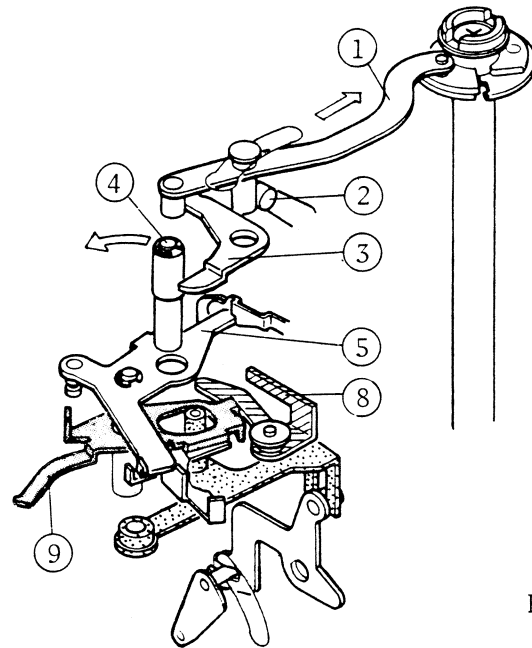

Fig.24
3-1 Operation of shutter and mirror (Fig. 24 and 25)
- ④ Charge of the mirror housing (Fig. 24)
(Fig. 24)
4. The end of the (5) mirror charge lever unit is locked on the snap (A) and then mirror is charged. (Fig. 24 and 25)
5. When depressing the shutter release button, the (6) release lever and the (7) slide move in direction shown by the arrow.